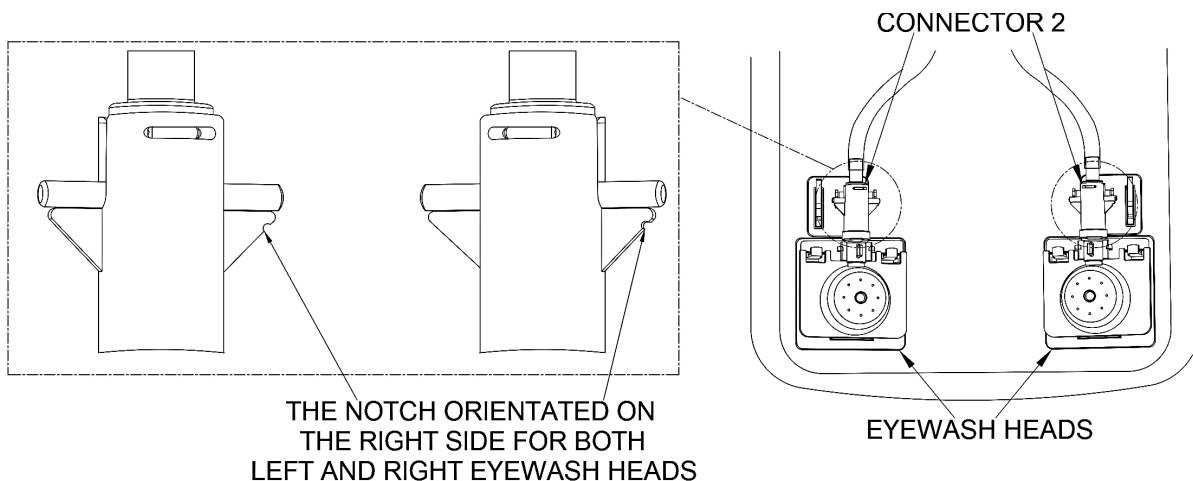

FIGURE 9
- C. After securing the Cartridge tube within the Tube Clamp, verify the notch of both left and right connector 2's are orientated on the right-hand side of the nozzle assembly (**Figure 9**). If the notch of connector 2 is not on the right side of both eyewash heads perform the following steps: